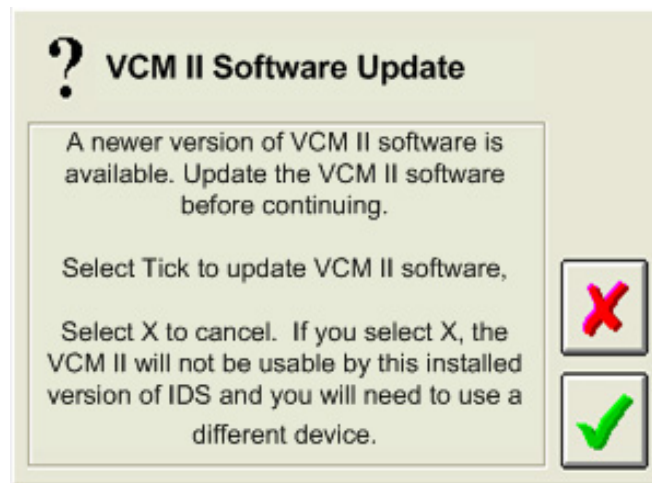

FIGURE 3: **VCM II** SOFTWARE UPDATE POP-UP WINDOW
IDS will notify you if the **VCM II** software version is out of date. In this case, **IDS** will prompt you to update the **VCM II** software with the pop-up window shown in Figure 3. The pop-up window may contain additional information if there are applications, such as the Customer Flight Recorder, installed on the **VCM II**.
10. The **IDS** pop-up window shown in Figure 3 will appear notifying the user that a new version of **VCM II** software is available. Select the **Tick** button to update the **VCM II** software.